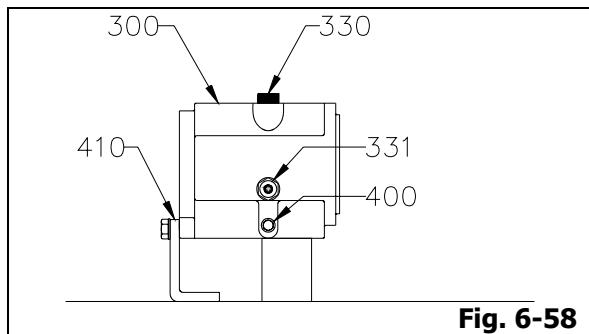

Fig. 6-58
- Install oil cover (330), oil gauge (331), bearing frame drain plug (400) and all connection plugs (409) or/and piping adaptors to bearing frame (300). Attach support foot (410) with bolts to bearing frame (300). Tighten bolts (Fig. 6-58).